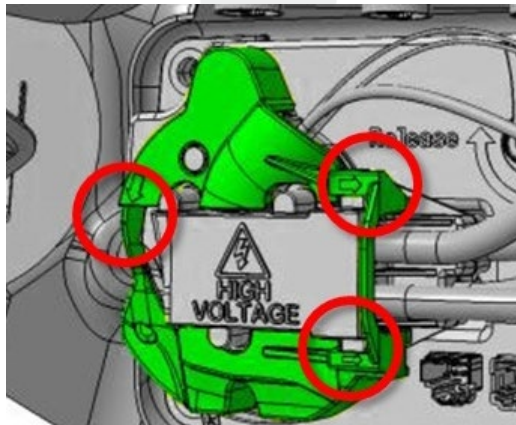

Figure 19
1. Use a trim tool to release the 3 tabs that secure the charge port cover to the cable connector (Figure 19).